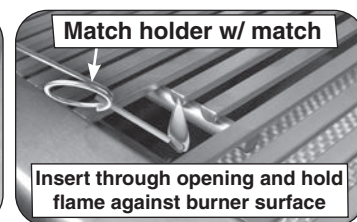

Fig. 29-3 Manual lighting via match holder
- Grills equipped with an infrared burner include a wire extension match holder (attached to drip tray) to assist with manual lighting (see Fig. 29-3).
4. If the burner does not light within five (5) seconds of turning the control knob, **immediately depress the knob and turn the valve to OFF**. WAIT FIVE (5) MINUTES before repeating steps 2 through 4 of the MANUAL LIGHTING instructions.